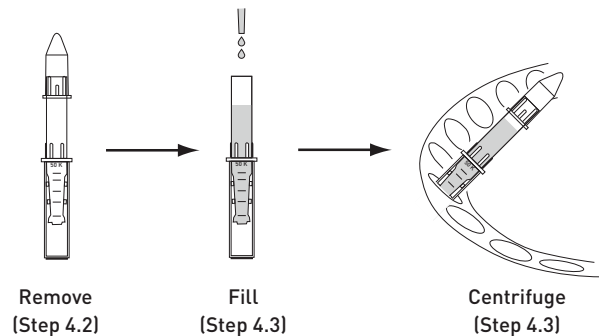

Figure 4 Wash the antibody concentrator
- 4.3 Add 1 mL of 1X Tris, pH 7.0 (or TBS) to the large antibody concentrator (Component I) as shown in Figure 4.
- 6.2 Add 1X Tris, TBS, or PBS to a total volume of 2 mL to the large antibody concentrator (Component I) as shown in Figure 4 (page 6).